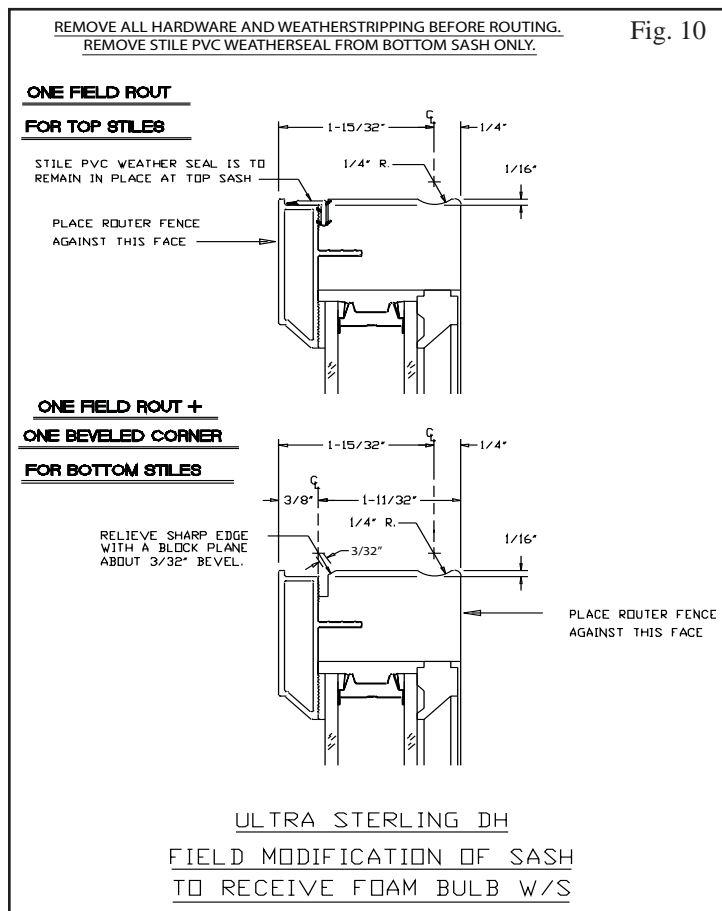
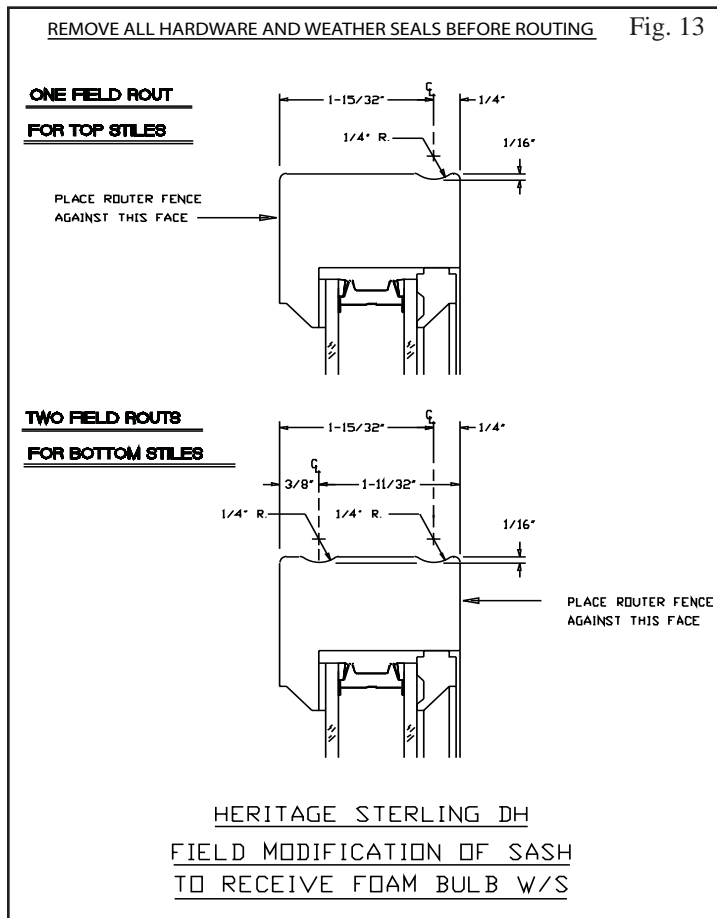

Fig. 10
Fig. 13
See Fig. 10, 11, 12 & 13 on page 2.
- Using a router table or jig edge guide; set up the router to route a 1/4" radius in the top and bottom sash stiles (sides). If you are working with Ultra units (Extruded Aluminum) see Fig. 10. If you are working with Heritage units (wood) see Fig. 13.
- Put a 3/32" bevel on bottom sash just under aluminum sash cover on stiles. Use a block plane or sanding block. Use a "rat-tail" file at check rail ends. See Fig. 10 & 12.